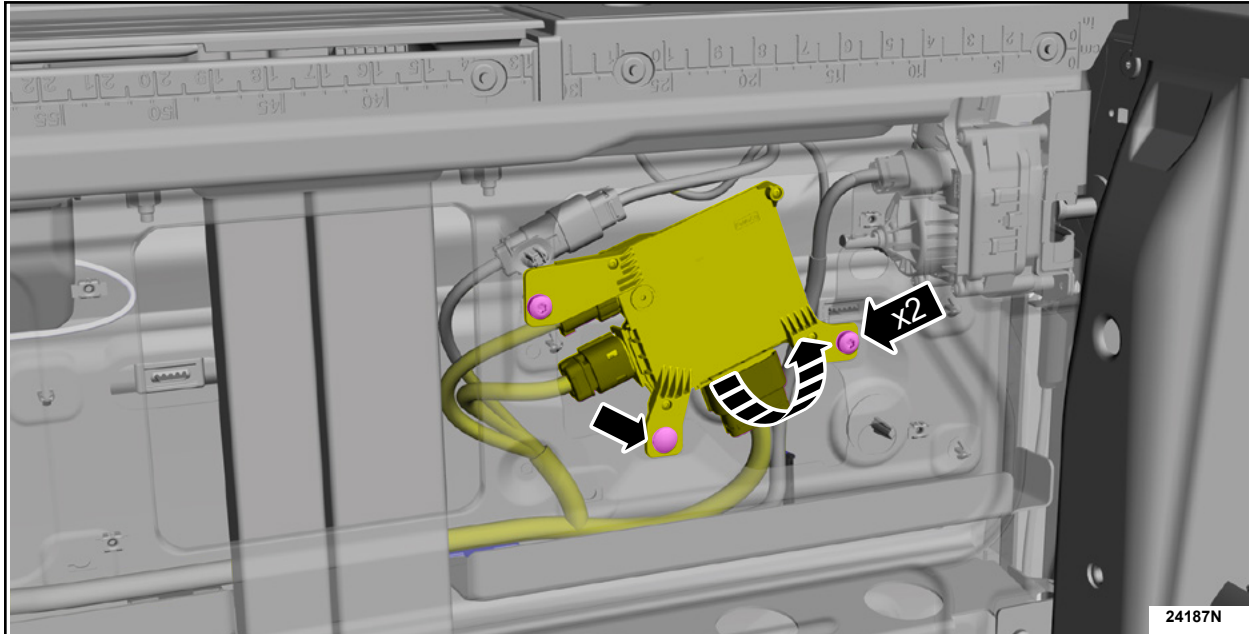

FIGURE 18
18. Install the *new* tailgate park assist sensor interface module and position back the module and wiring, Then, install the retainers. See Figure 18.